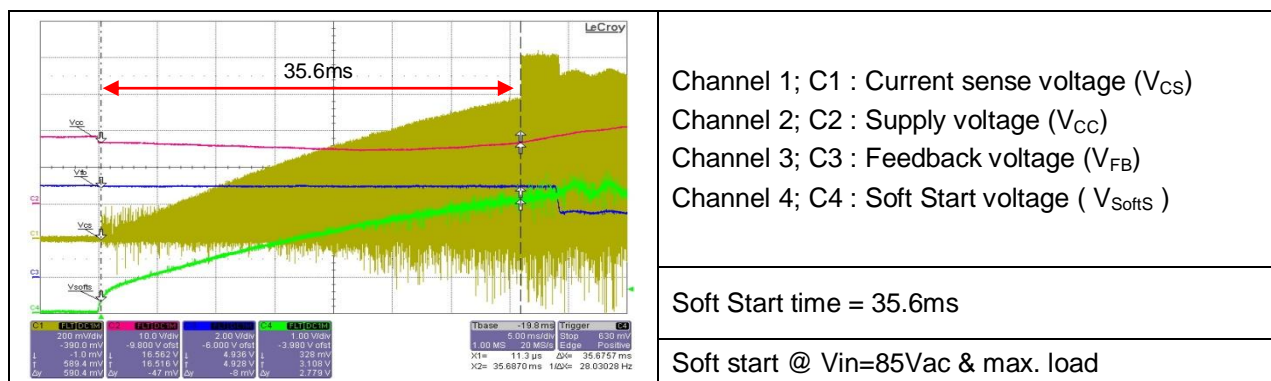

Figure 6 Soft start at AC line input voltage of 85 Vac & full load
When the IC is turned on after the start-up time, the soft start capacitor at pin1, C_{SoftS} is immediately charged up to approximately 0.8V and from this point IC starts switching. The soft start voltage V_{SoftS} is generated by C_{SoftS} and the internal pull up resistor R_{SoftS} . The duty cycle of the gate drive is determined by the V_{SoftS} during the soft start phase, which is terminated when V_{SoftS} reaches 3.1V. Afterward, IC goes into normal mode and the duty cycle is dependent on the FB signal. The duration of the soft start can be estimated by the equation (2). Figure 6 shows the soft start behaviour at 85VAC input and full load. It can be seen that the primary peak current follows V_{SST} voltage and slowly increase to the maximum. The soft start time is approximately 35.6ms.